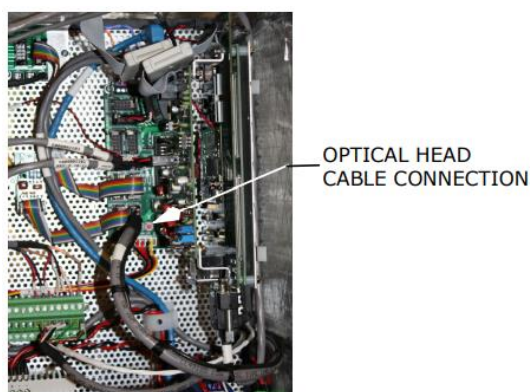

Figure 33. Optical head cable connection
- ▶ The optical head cable connector will fit in several different openings. Make sure the correct outlet is used. Refer to Figure 33 below.